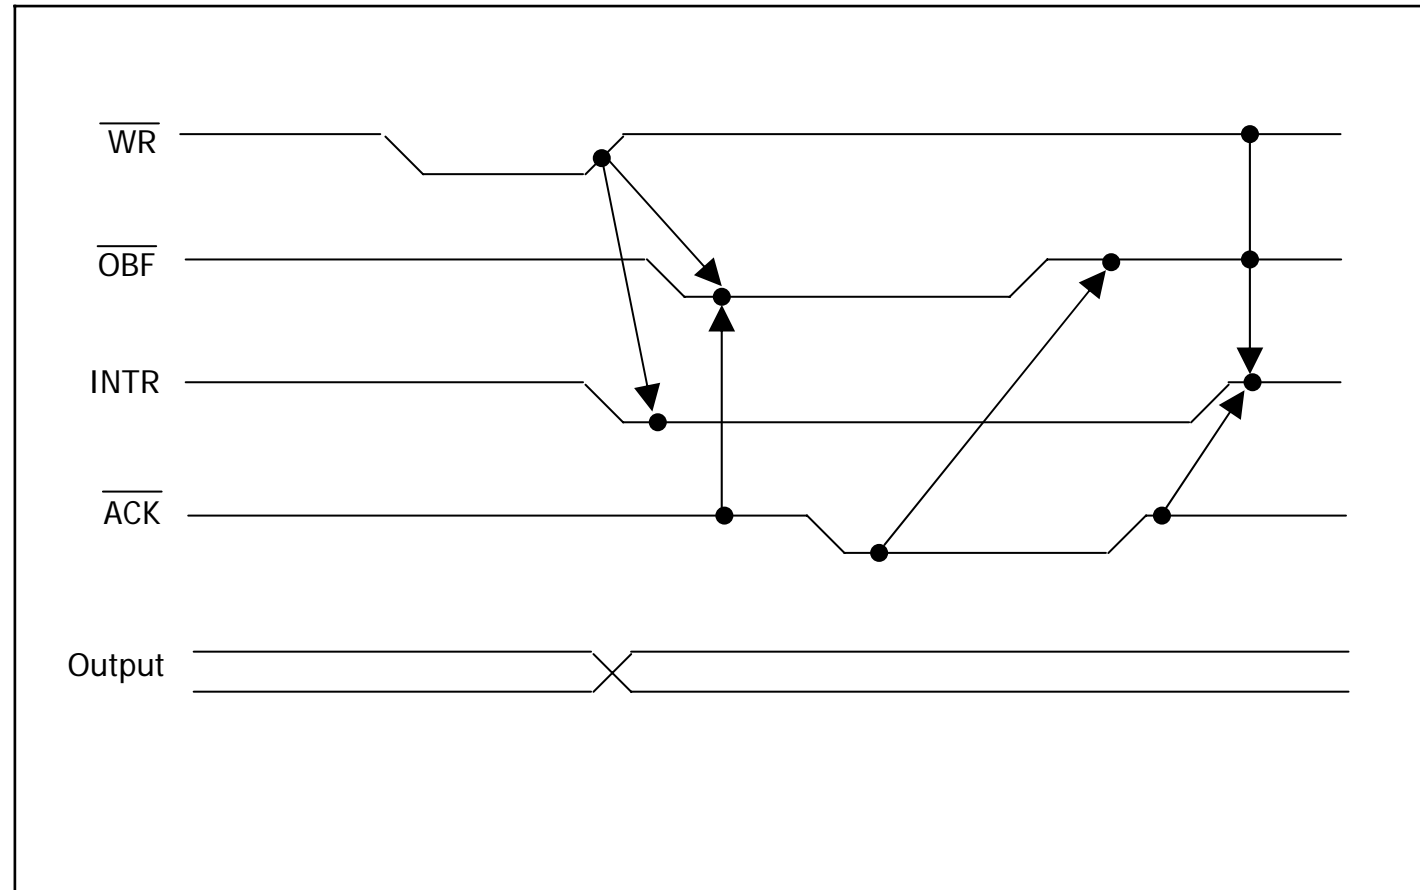

Figure 15-15. Timing Diagram for Mode 1 Output
- Figure 15-15 provides a timing diagram